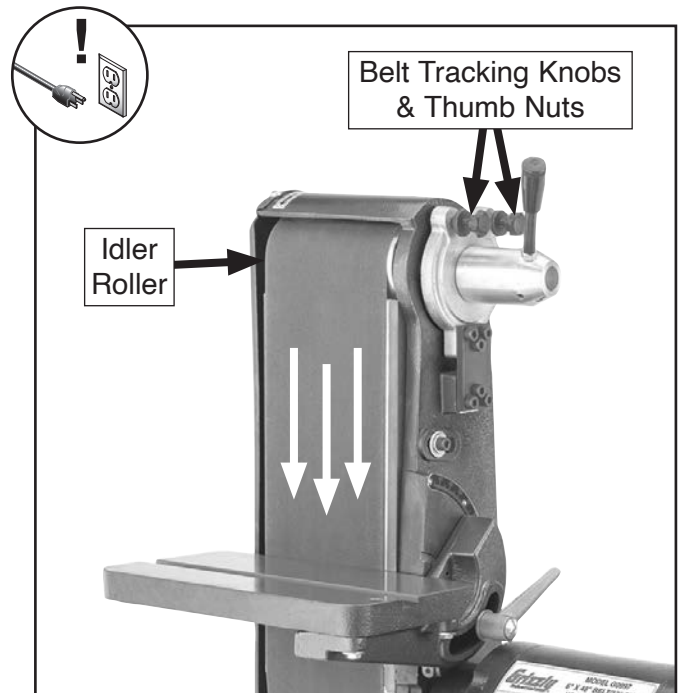

Figure 26. Belt tracking components.
4. Standing in front of machine, push sanding belt multiple times along platen so it moves in direction of operation (see **Figure 26**), then watch how belt tracks on rollers.
5. Loosen (2) thumb nuts, then use (2) belt tracking knobs (see **Figure 26**) to adjust belt tracking while continuing to rotate belt by hand to check adjustment.